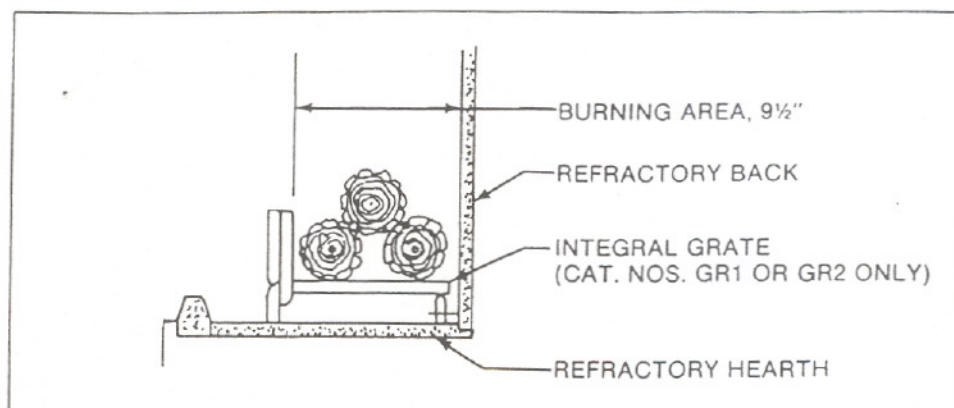

Figure 21
- E. **GRATE.** The factory installed Integral Grate must be used to hold the logs from falling out of an open fireplace and to allow air to pass between the burning logs. It is important to keep the fire off the hearth and to allow the ashes to collect beneath the fire, thereby forming a layer of additional heat protection. See Figure 21. Use only Catalog Number GR1 or GR2 Integral Grate for replacement.
- H. **SETTING THE FIRE.** Check the flue damper to be sure it is fully open. Place crumpled or twisted paper under the Grate. Loosely arrange kindling or small pieces of wood to form a layer above the paper. Place three logs in a rough pyramid as shown in Figure 21, being sure to allow free air space between the logs. Small sticks of wood may be used to separate the logs. **NOTE:** When heated the first time, the temperature of the fireplace must be raised gradually, to prevent moisture within the refractory from causing cracks, and to allow the binders in the insulation to dissipate.